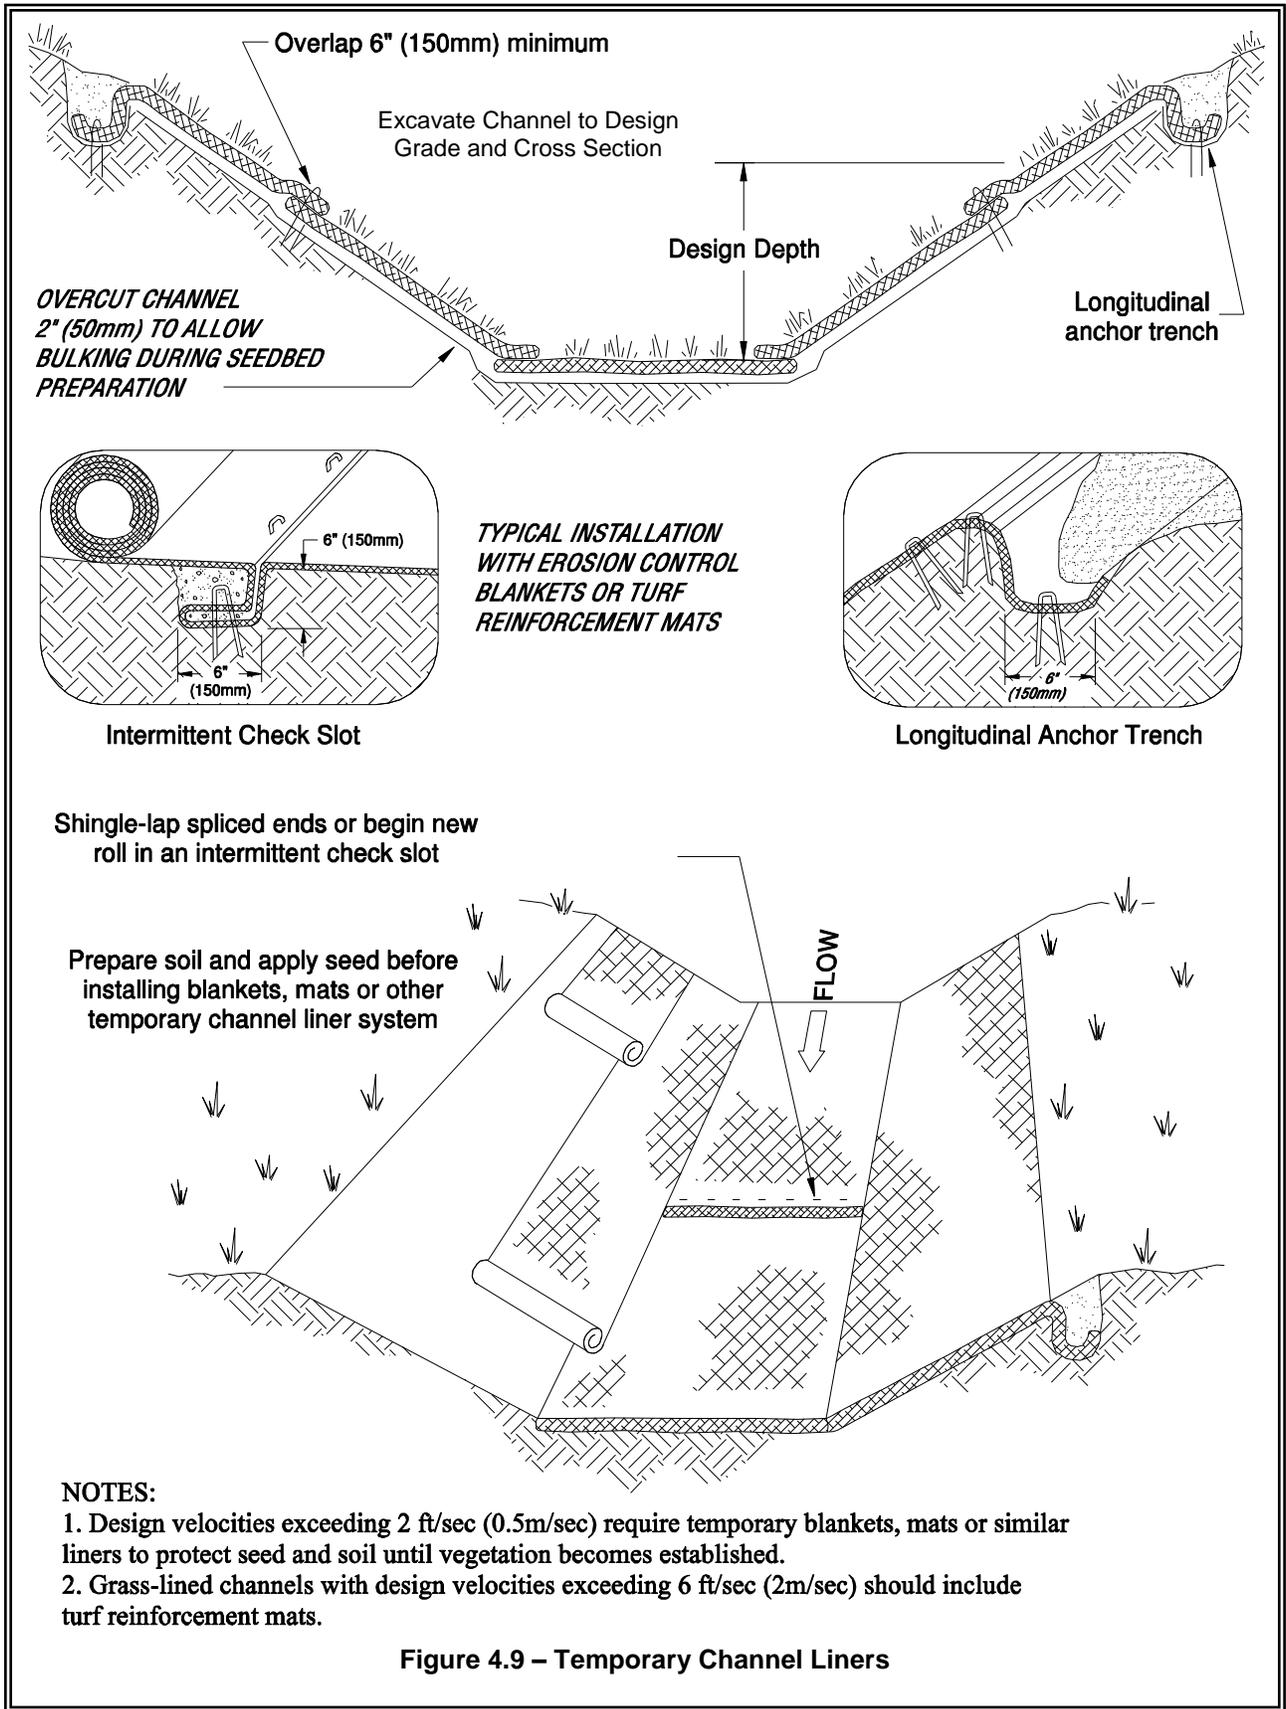

Figure 4.9 – Temporary Channel Liners
- If design velocity of a channel to be vegetated by seeding exceeds 2 ft/sec, a temporary channel liner is required. Geotextile or special mulch protection such as fiberglass roving or straw and netting provide stability until the vegetation is fully established. See Figure 4.9.